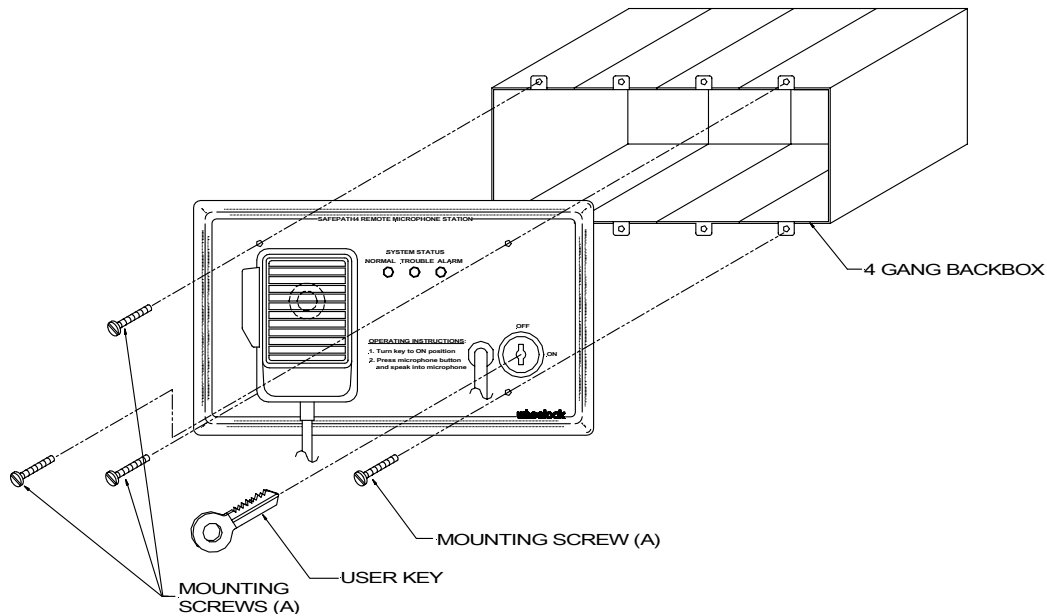

Figure 2.
Figure 2 shows the proper mounting requirements for the *SPRM*.
3. Attach the mounting plate to the box with the 4 screws as shown in Figure 2.